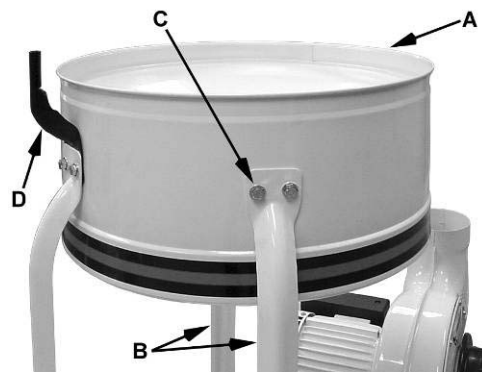
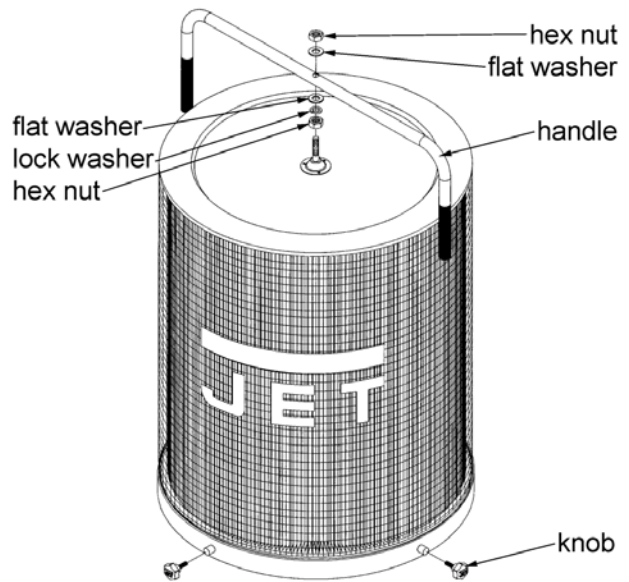

Figure 5
Figure 10
6. Install the *housing* (A, Fig. 5) to two *support legs* (B, Fig. 5) using four M8 x 16 hex cap bolts, eight M8 flat washers, and four M8 hex nuts (C, Fig. 5). Be sure hose opening faces fan housing.
Note: For models DC-1200VX-BK1 or DC-1200VX-BK3 only – Before attaching third support bracket, place the *hanger bracket* (D, Fig.5) between the support bracket and the housing.
1. Mount the handle onto the canister filter with two M10 hex nuts, two M10 flat washers, and a M10 lock washer (Figure 10).
2. Mount the canister filter on top of the *collector housing* (A, Fig. 5) and tighten the knobs on the *canister filter* (Figure 10).